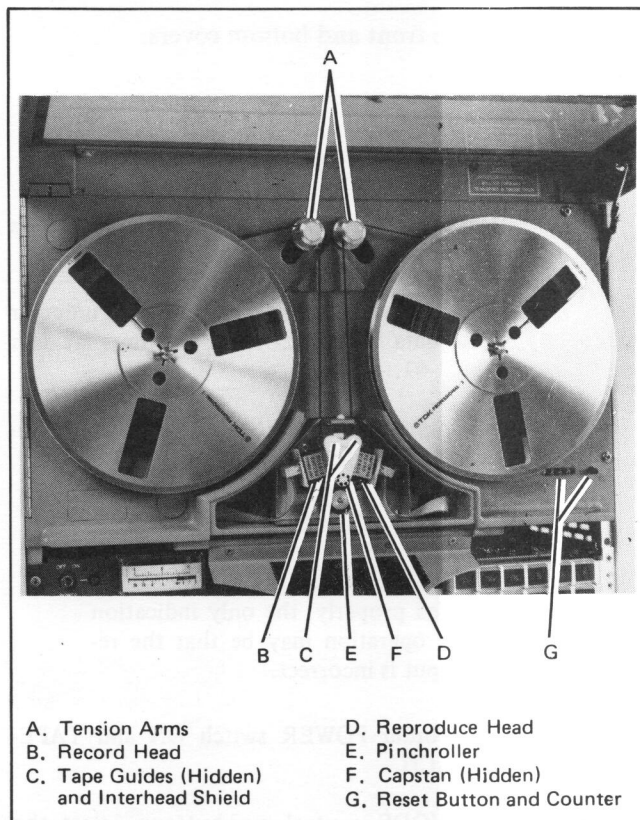

Figure 3-3. Tape Threading
3. Head Cover. Protective cover for heads and capstan. Hinged at the bottom, pull out at the top for access to heads. See Figure 3-3 for head and capstan details.
- c. Pull length of tape from supply reel over the top of the two tension arms and wind several turns of tape around the take-up reel (see Figure 3-3).